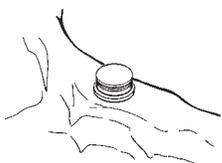

Fig. 5
3. Insert a Locator Denture Cap Processing Male Assembly (contained in Zest order No. 8519 Package) onto each Locator Implant Abutment, leaving the White Block-Out Spacer beneath it. (Fig. 5) The Black Processing Replacement Male will maintain the overdenture in the upper limit of its vertical resiliency during the processing procedure.